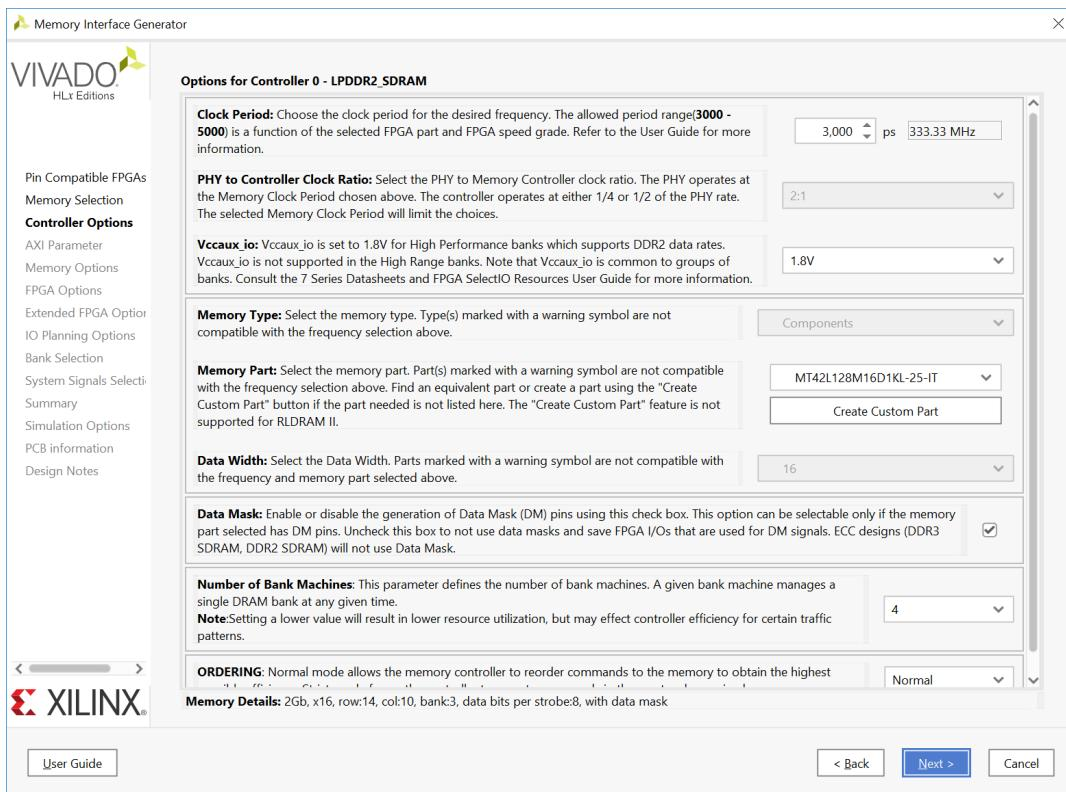

Figure 4-17: Controller Options Page
This page shows the various controller options that can be selected (Figure 4-17).
- **Memory Details** – The bottom of the **Controller Options** page (Figure 4-17, page 530) displays the details for the selected memory configuration (Figure 4-18).